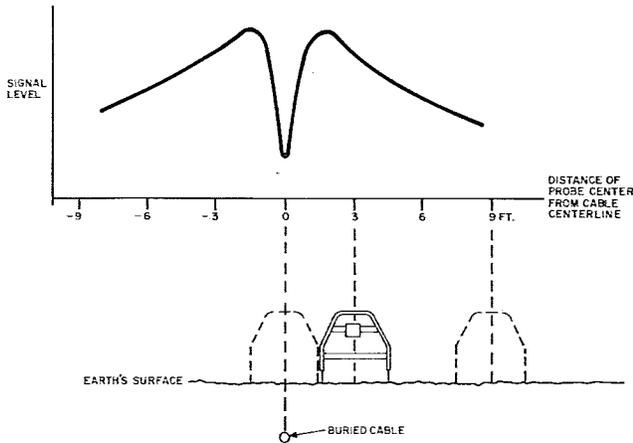

Fig. 9—Locating Buried Cable
5.02 With the probe positioned PERPENDICULAR to the cable as shown in Fig. 9, a means of locating the buried cable is provided. As the probe is moved closer to the cable, the signal will rise until the probe is located directly over the buried cable, then a null occurs. *This null indicates that the probe is directly over the cable.*